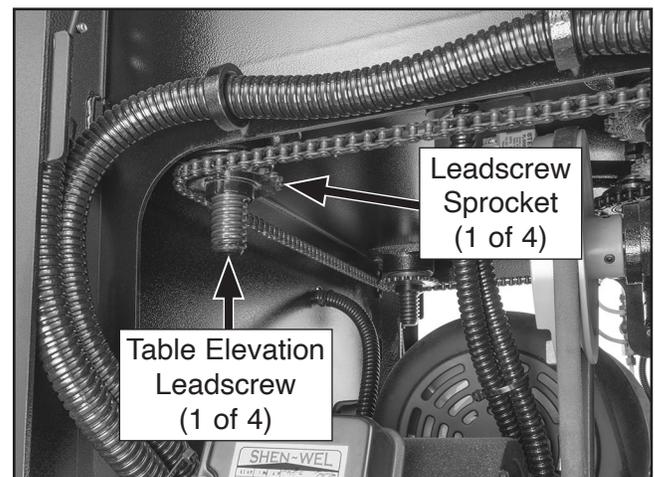

Figure 96. Location of table elevation leadscrew sprockets.
8. Mark one tooth of table elevation leadscrew sprocket (see **Figure 96**) that you need to adjust, and its location on frame.